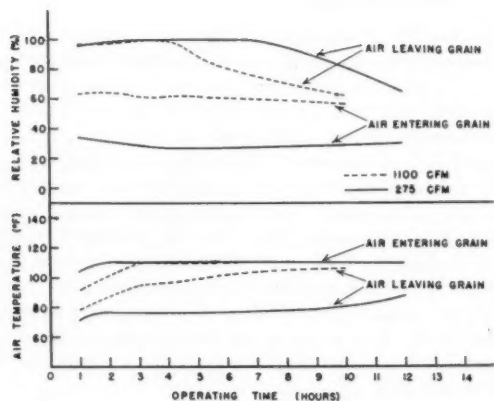
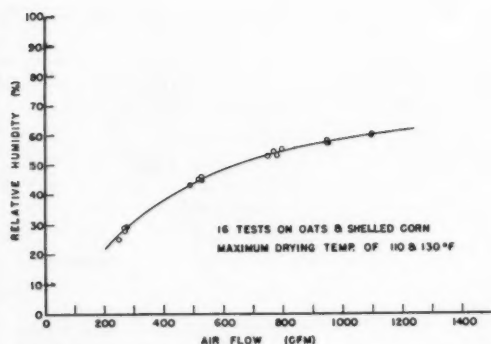

Fig. 4 Air conditions entering and leaving the grain at low and high air flows
Fig. 8 The effect of air flow upon the relative humidity of the drying air
**Air Flow and Temperature**—To illustrate the effect of air flow on operating conditions of the heat pump, the results of two tests are plotted in Fig. 4. On this diagram are shown the air conditions entering and leaving the grain for air flows of 275 cfs and 1100 cfm.
of this air by changing the air flow (Fig. 4). As pointed out previously this also changes the refrigeration capacity of the system and affects the operating cost. However, with crops that require critical drying conditions, a heat pump drier can be used to an advantage. These cost relationships must be weighed against the additional benefits derived from having the required air conditions for drying whenever the design of a unit is undertaken. Fig. 8 shows how the relative humidity of the drying air increased as the air flow increased for these particular tests, showing a range from 30 to 60 percent obtained by changing the air flow. This range in relative humidity can also be achieved by changing the refrigeration capacity of the system.
The relative humidity of the air coming off the grain while drying (Fig. 4) is dependent upon the moisture content of the grain. It remains at near saturation until drying is nearly completed at which time it begins to decrease and the temperature of the air begins to increase. As the moisture content of the grain decreases, evaporation of the water does not take place as readily and consequently the air is not saturated when it leaves.
**Drying Air Temperature**—It has been established (3) that heated air for drying seed grain should not exceed 110 F, while 130-140 F is permissible for grain to be processed. Tests were made at 110 F and 130 F in order to determine the differences, if any, in the operation of the drier. Referring to Fig. 4, at the lower air flows, there is a rapid increase in the air temperature until it reaches the maximum allowable drying temperature, but a higher air flow did not permit such a rapid temperature rise. The air leaving the grain warms at about the same rate until the control temperature is reached. Near the end of the test, the temperature of the air leaving the grain begins to rise as the drying capacity is not fully utilized. This is due to the lower moisture content of the grain which causes the air to leave the grain at a lower relative humidity.